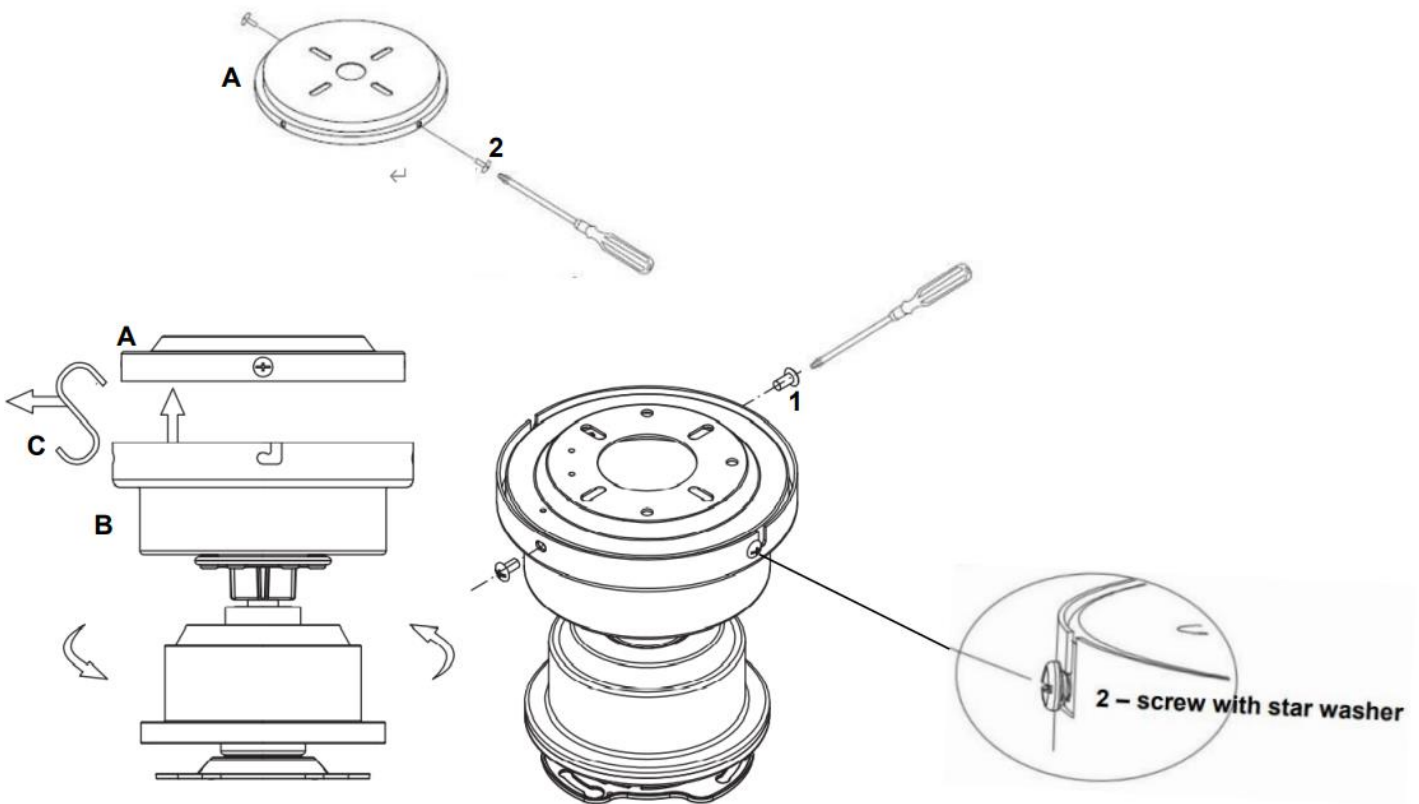

Fig. 6
Install the fan assembly to the mounting bracket (Fig.6):
- Loosen two canopy screws with star washer (2) by half thread from the mounting bracket. (For L-shape slot on canopy to be mounted).
- Remove the S-hook (C) from the mounting bracket and fan assembly
- Lift the hanging plate of the fan assembly up to the mounting bracket and let the L-shape slot on the hanging plate go through the two canopy screws with star washer (2). (Fig.6)
- Turn the hanging plate until it locks in place at the end section of the L-shape slot, ensure the star washer are between the hanging plate and screw head. Secure it by tightening the two canopy screws with star washer (2).
- Secure and tighten the canopy screws (1) to the mounting bracket. The hanging plate shall have 4 screws (1) & (2) in total. Avoid damaging the electrical wiring prepared previously when hanging the hanging plate